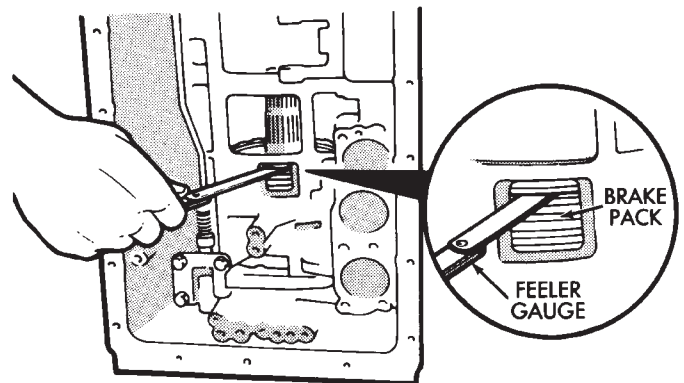

Fig. 16 Checking Second Brake Pack Clearance
(19) Install second brake pack retainer with rounded edge of retainer facing disc.
(20) Install second brake pack snap ring.
(21) Check brake pack clearance with feeler gauge (Fig. 16). Clearance should be 0.062 - 1.98 mm (0.024 - 0.078 in.). If brake pack clearance is not correct, brake pack components are not seated. Reassemble brake pack if necessary.